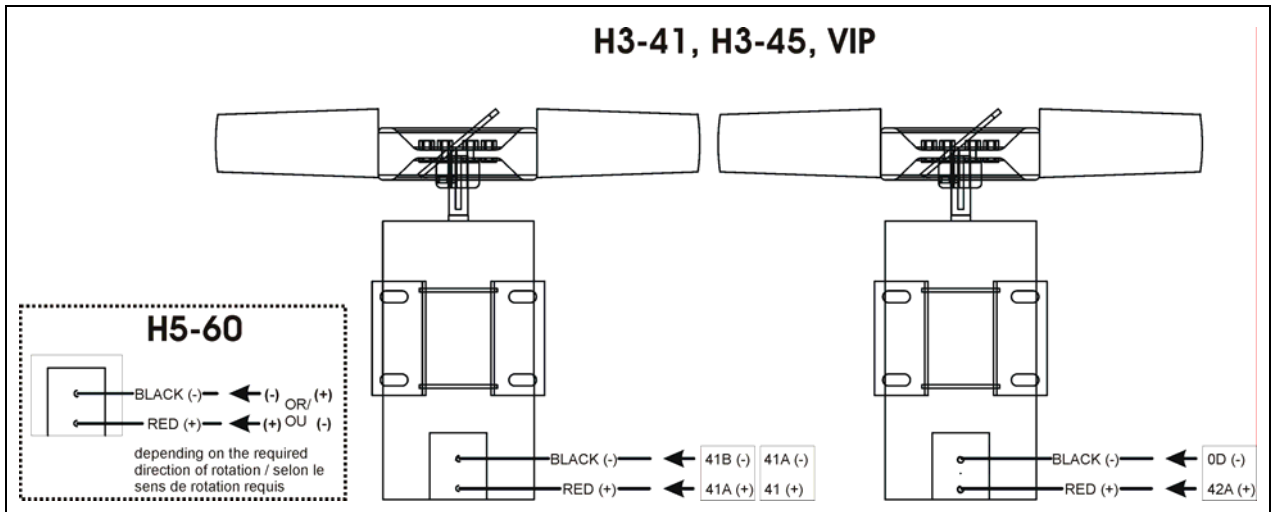

FIGURE 4: CONNECTIONS
4. On each wire, remove a piece of insulating sheath. Place a seal and then crimp tab or tab receptacle terminal (see the annexed instructions). Assemble connectors. Use figure 4, 5 & 6 as reference for proper electrical connections.